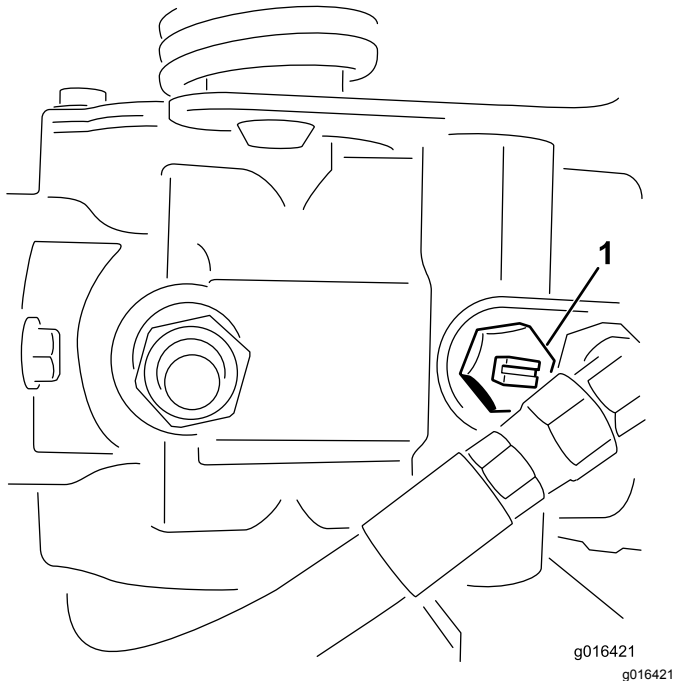

Figure 27
1. Locate the bypass valve on the pump and rotate it counter-clockwise 2 full turns (Figure 27).
2. Before starting the engine, close the bypass valve by rotating it clockwise 2 full turns (Figure 27).